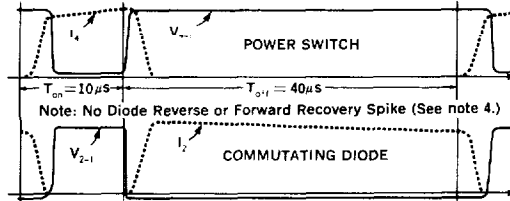

Figure 2. PIC625, 626, 627 Switching Waveforms
- No reverse recovery spike generated by commutating diode (See note 4. and Fig. 2.)
| Voltage Fall Time | t_{fv} | — | 70 | 175 | — | 100 | 300 | ns | See Figure 2 |
- In switching an inductive load, the current will lead the voltage on turn-on and lag the voltage on turn-off (see Figure 2). Therefore, Voltage Delay Time (t_{dv}) $\approx t_{di} + t_{ri}$ and Current Storage Time (t_{si}) $\approx t_{sv} + t_{fv}$.
- As can be seen from the switching waveforms shown in Figure 2, no reverse of forward recovery spike is generated by the commutating diode during switching! This reduces self-generated noise, since no current spike is fed through the switching regulator. It also improves efficiency and reliability, since the power switch only carries current during turn on.